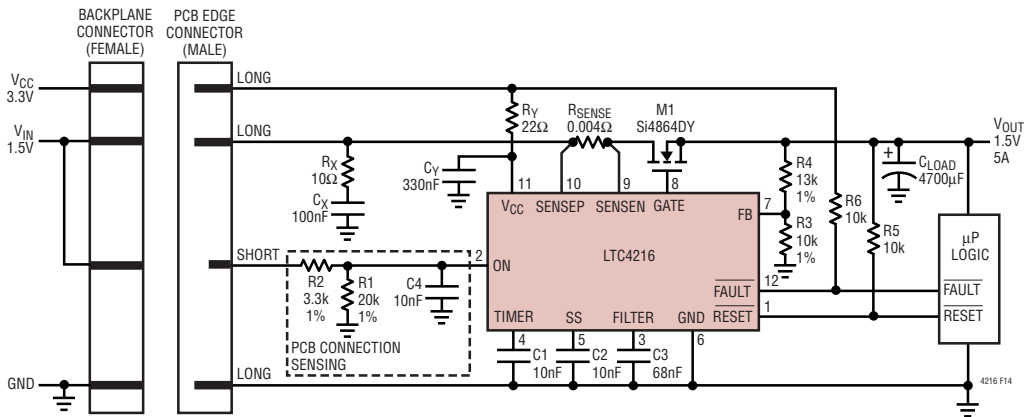

Figure 14. Single Channel 1.5V Hot Swap Controller
The LTC4216 can be used on either the backplane side of the connector or a printed circuit board, and examples for both are shown in Figure 14 and 15. Printed circuit board edge connectors with staggered pins are recommended as the insertion and removal of circuit boards will sequence the pin connections. Supplies (V_{CC} and SENSEP) and ground connections on the printed circuit board should be wired to the long pins or blades of the edge connector. Control signal (ON) and status signals (RESET and FAULT) passing through the edge connector should be wired to short pins or blades.
An example is shown in Figure 14, in which the LTC4216 is mounted on the PCB and the R1/R2 resistive divider is connected to the ON pin. On the edge connector, R2 is wired to a short pin. Before the connectors are mated, the ON pin is held low by R1, keeping the LTC4216 in an off state. When the connectors are mated, the resistive divider is connected to the load supply (V_{IN}) and the ON pin voltage rises above 0.8V , turning the LTC4216 on.